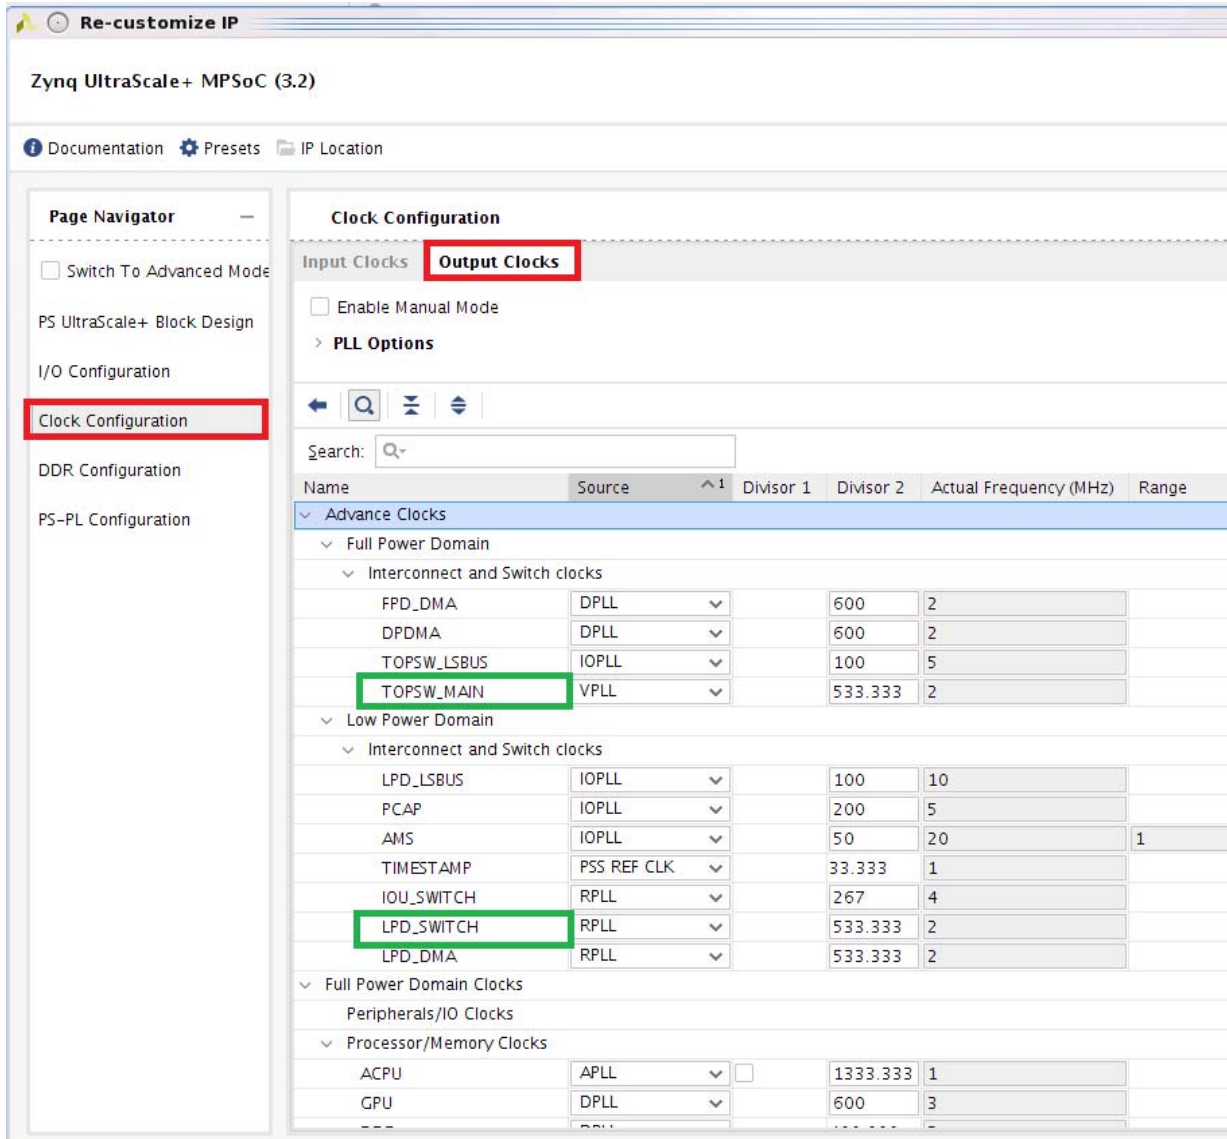

Figure 3-24: Customize Zynq UltraScale+ MPSoC IP
- Low and Full power interconnect clock rates are called LPD_SWITCH (LP) and TOPSW_MAIN (FP) in the clock configuration tab as shown in Figure 3-24 as green color boxes.
Note: The FP and LP interconnect clocks can be generated using the TOPSW_MAIN and LPD_SWITCH (marked as green boxes in Figure 3-24).